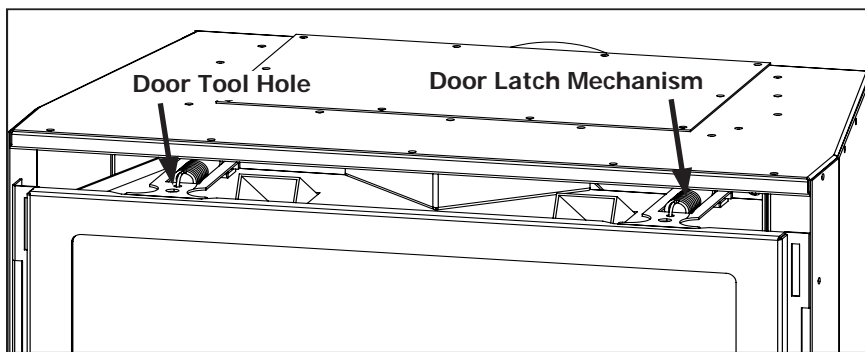
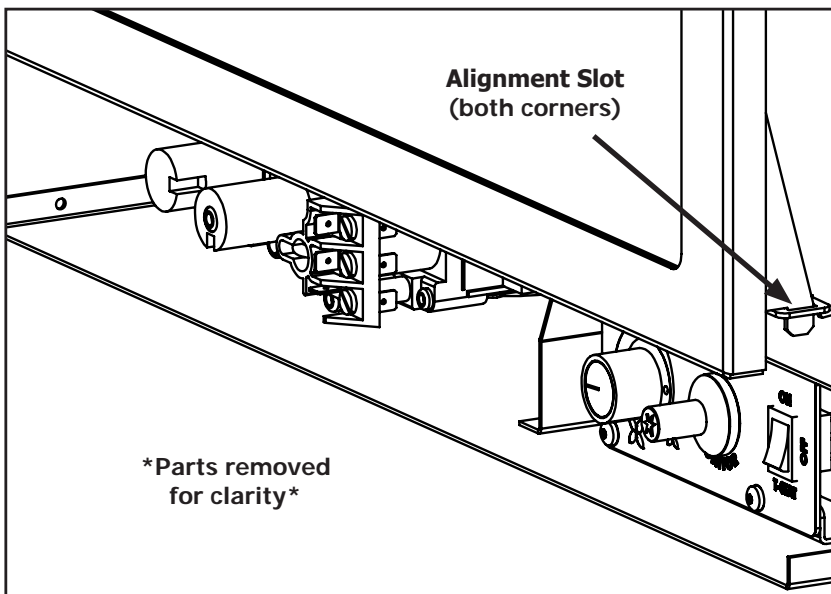

Figure 17. Top latches for glass door
Figure 18. Bottom Alignment Slots for glass door.
In order to install the log set, and for regular cleaning, the glass door must be removed. There are two (2) door latch mechanisms on top the glass door as shown in Figure 17. Each latch has a hole at the front to use the door tool, supplied with the unit, to pull the mechanisms straight out and up. When the top latches are unhooked, lean the door forward and then lift it up out of the alignment slots at the bottom corners of the firebox, shown in Figure 18.